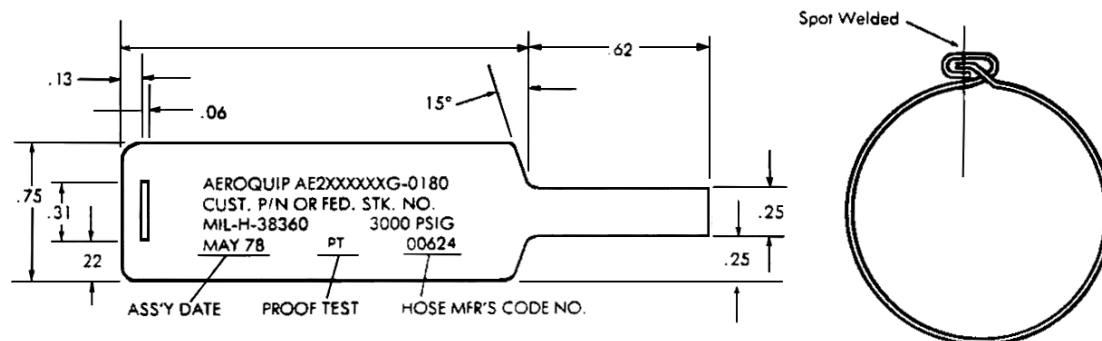

Figure 5. Identifying Metal Band
- 2) Hose Assembly Tag Identification — All factory assembled hose assemblies are identified with a metal band. Identification may include such information as customer part number, Federal Stock Number if required, hose assembly specification number, operating pressure in psig, manufacturer’s assembly part number, proof test symbol, date of assembly, and hose manufacturer’s Federal Code Number. See Figure 5.
All factory assembled hose lines are identified with a metal band (Figure 5) containing part numbers, date of assembly, etc. A detailed explanation of the different elements of a hose assembly part number is shown in Figure 6.